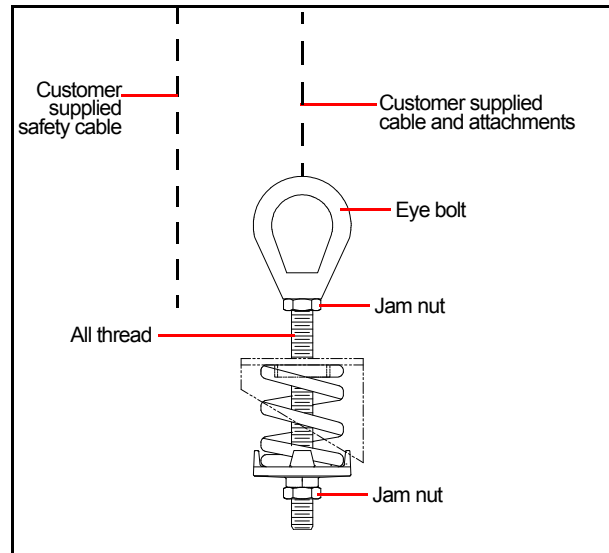
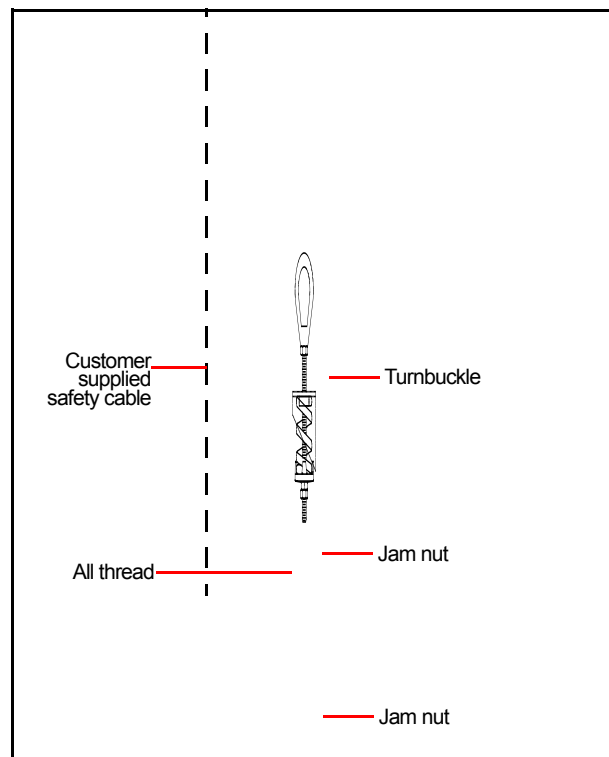

Figure 3-10 Overhead Suspension Assembly - Eye Bolt
Figure 3-11 Overhead Suspension Assembly - Turnbuckle
3. Referring to Figure 3-10 and Figure 3-11, suspend the turnbuckles or eye bolts from the ceiling using load rated wire rope and fittings. Make sure there are adequate threads at the end of the all thread to attach the isolation springs.